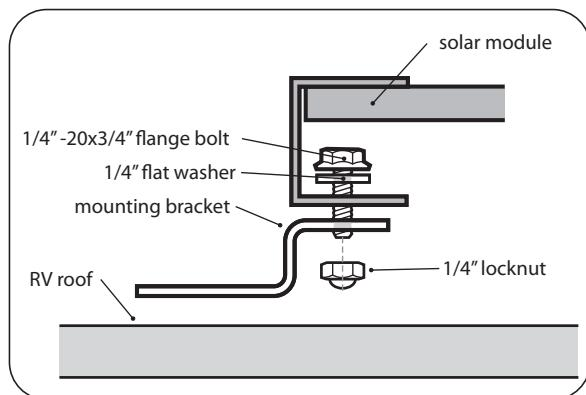
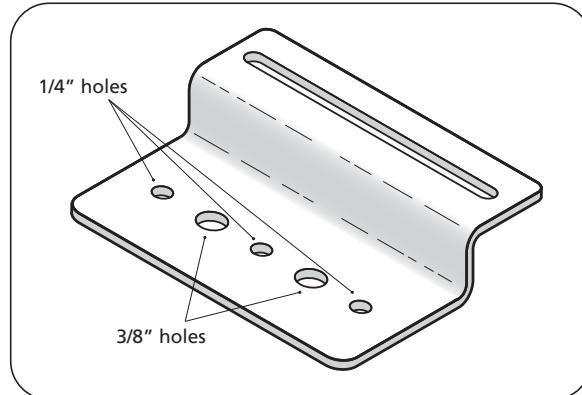

Fig. 3.2. Attaching solar panel to 5-hole mounting bracket.
Fig. 3.3. 5-Hole Mounting Bracket.
4. Fix the mounting brackets (Fig. 3.3) to the frame of the previously positioned solar panel using the slotted opening and the $\frac{1}{4}$ "-20 x $\frac{3}{4}$ " Flange Bolt, Nylon Locknut and flat washer (Fig. 3.2).
7. The centre and end holes on the mounting brackets (Fig. 3.3) are sized to accept the $\frac{1}{4}$ " hardware supplied with the unit. If the use of larger sized hardware is desired, $\frac{3}{8}$ " holes can be used.
2. Slots for accepting "snap-in" type of locking tabs (5) of the mating MC4 Female Connector (Fig. 3.2)